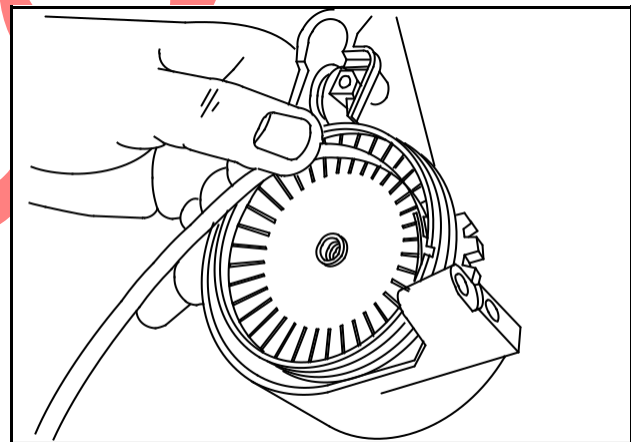

Fig. 626 – INSTALLING SPRING IN OUTER
2. Hook end of spring into spring retainer on outside diameter of pulley, Fig. 626.